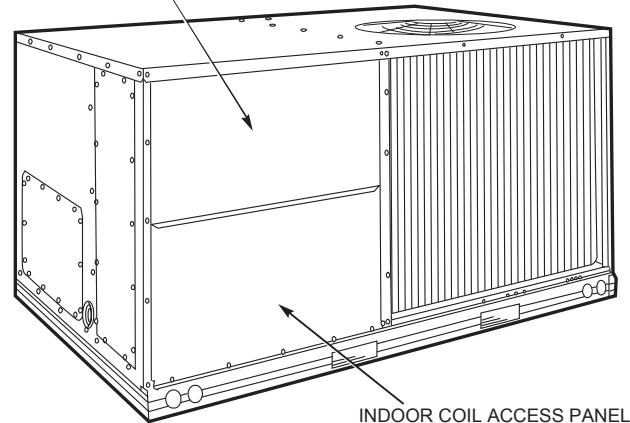

Fig. 21 — Typical Access Panel Locations (Sizes 07-14)
2. To gain access to the hood, remove the filter access panel. (See Fig. 21.)